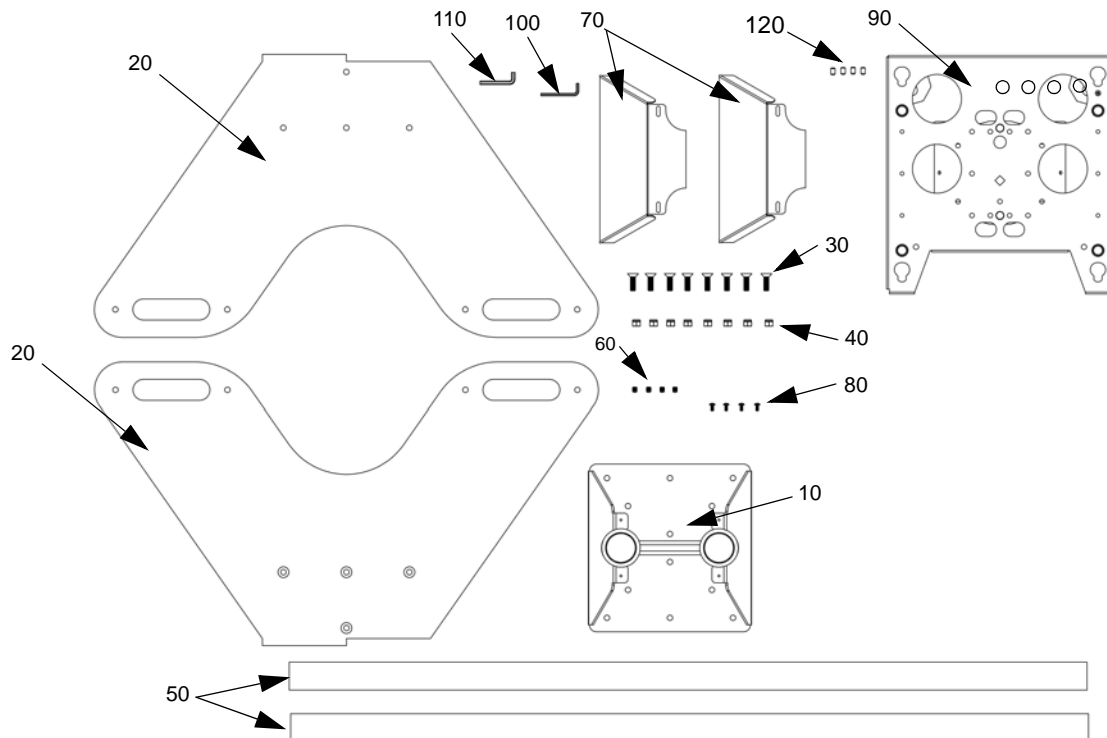

Figure 2: Parts
- Carefully inspect the Floor Stand (see figure 2) components for shipping damage. If any damage is apparent, call your carrier claims agent and do not continue with the assembly procedure until the carrier has reviewed the damage.
Numbers in () refer to parts shown in Figure 2.